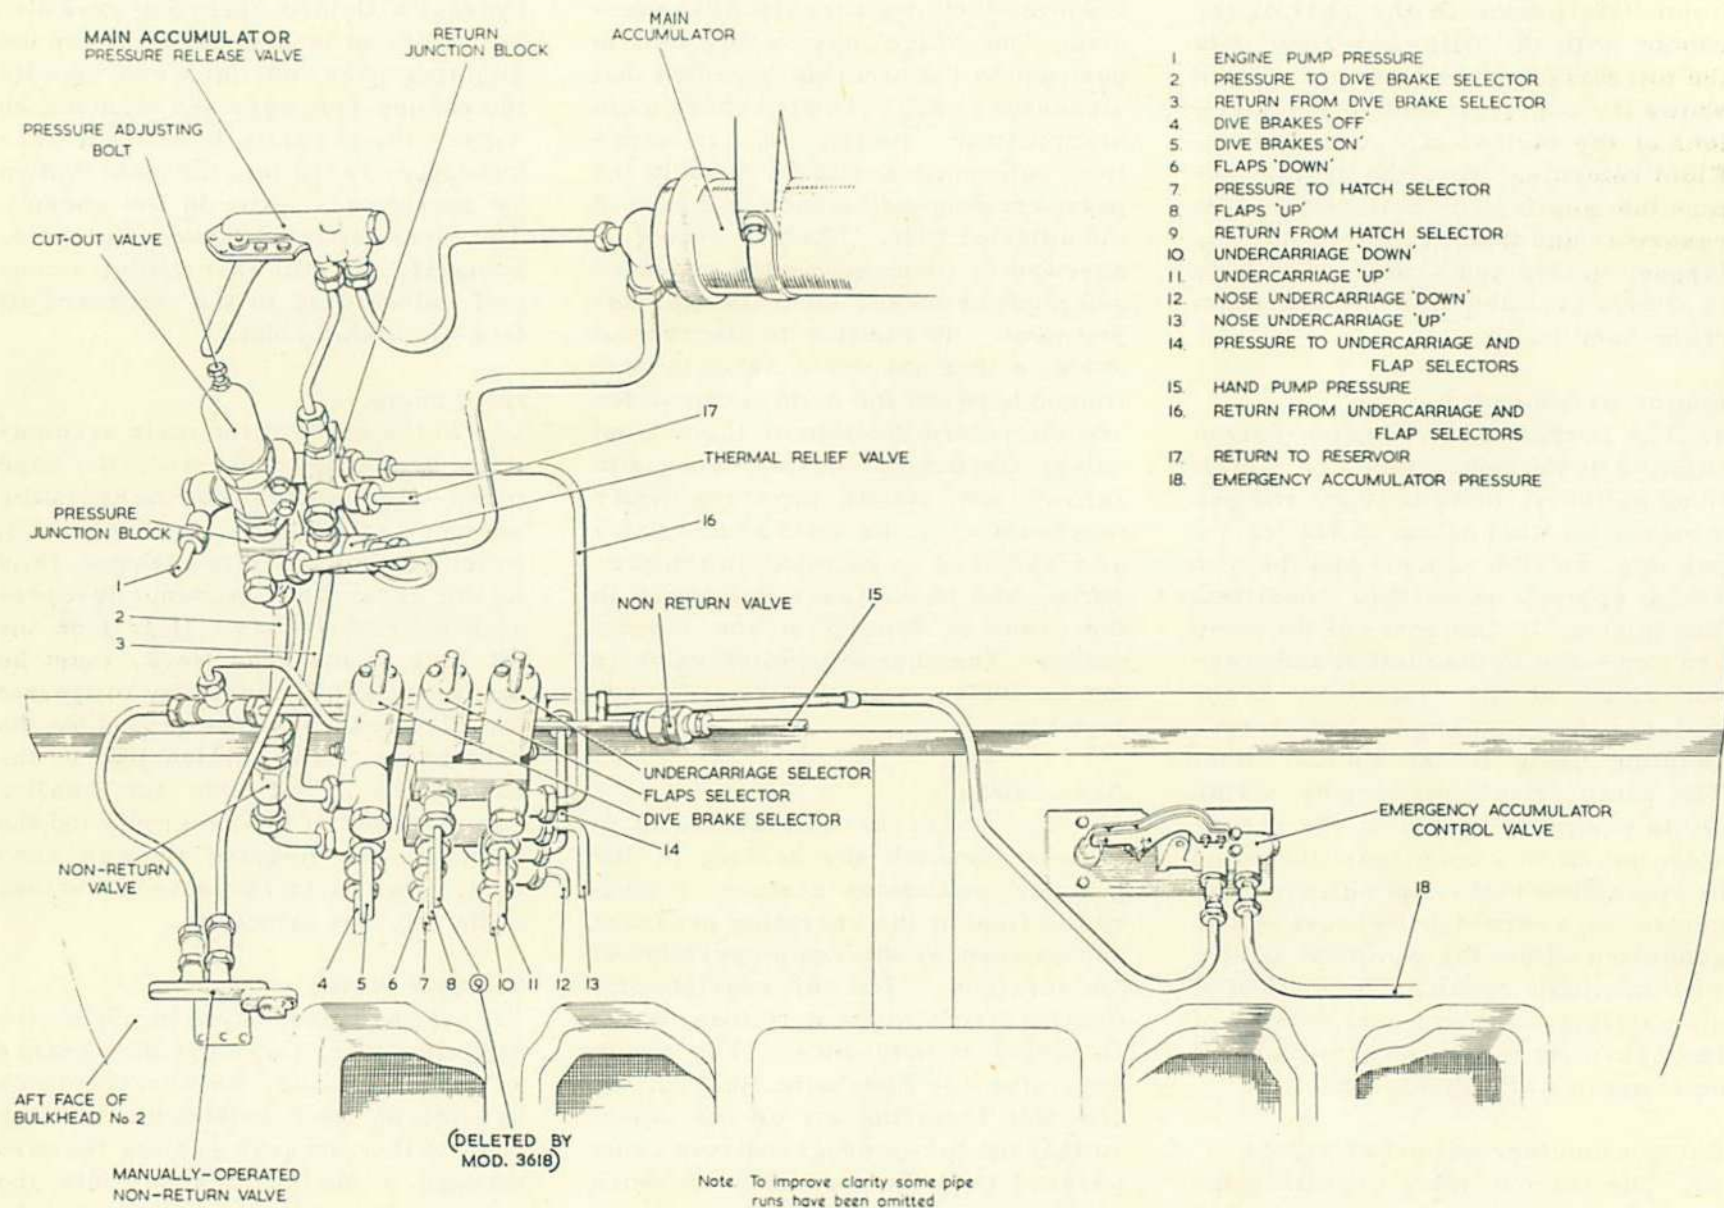

Fig. 3 Hydraulic equipment on bulkhead No. 2
11. The main accumulator (fig. 3) mounted beneath the decking of the gun bay, maintains a store of hydraulic fluid at the operating pressure and so ensures the rapid operation of the services. The unit consists of a floating piston within a cylinder which is sealed at both ends. The piston separates the hydraulic fluid on the one side from the air on the other, so that the air is progressively compressed until the operating pressure of the system is reached. Two emergency accumulators, fitted in the nose
12. In the event of the main accumulator becoming exhausted, the hand pump will operate any of the hydraulic services satisfactorily on the ground, provided that there is adequate fluid in the reservoir; a manually-operated non-return valve (fig. 3) on the aft face of bulkhead No. 2, must be held open if it is necessary to operate the dive brakes on the ground by the hand pump. The suction line to the hand pump is fed from the smaller compartment of the reservoir and the pressure is directed through non-return valves to the selector valves of the various services.
This FULL mark indicates the quantity of fluid required in the system when the main accumulator oil pressure is released. It is therefore important to release this pressure through the main accumulator pressure release valve (fig. 3) before filling or topping-up the reservoir.